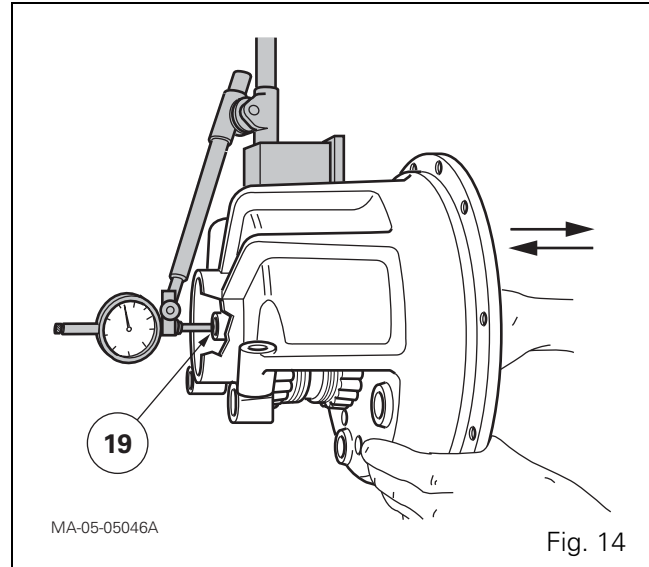
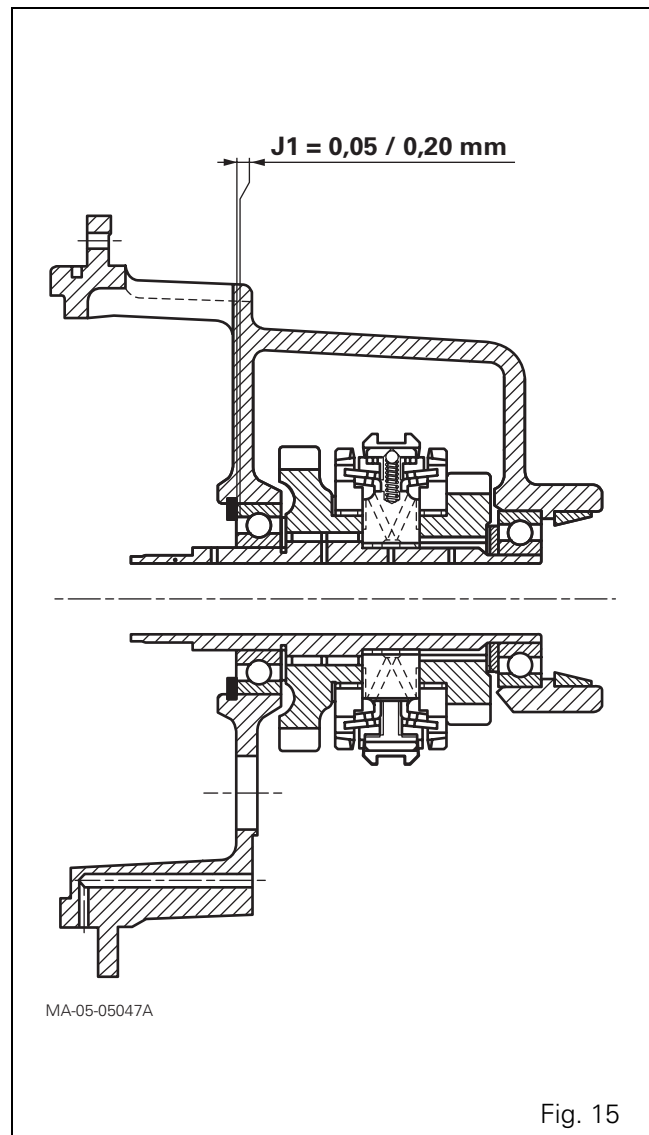

Fig. 14
Fig. 15
39. Position the dial gauge feeler pin on the end of the shaft (19) (Fig. 14).
40. Pull hard on the secondary shaft (19) to correctly position the ball bearing (24) against the circlip (25).
42. Repeat step 40 while pushing to bring the ball bearing (9) up against the shoulder of the housing (26).
43. Depending on the clearance measured, select a new thickness of shim(s) (1) to obtain a clearance of **J1 = 0.05 to 0.20 mm** (Fig. 15).